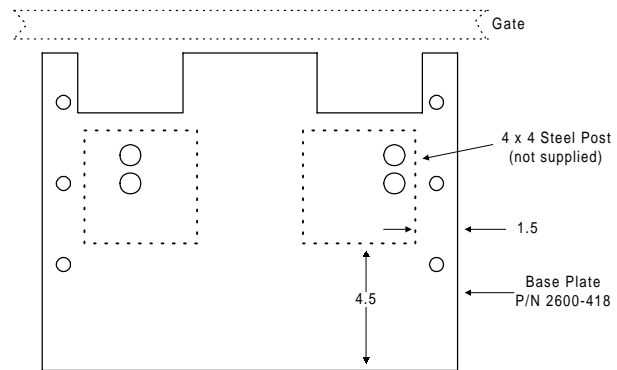

Figure 7
1. Post mounting the operator requires the use of an operator base plate (P/N 2600-418) and two (2) 4 X 4 steel post (not supplied) welded to the base plate as shown in figure 7. The length of the steel post and the depth of the pad are determined by soil conditions and local code requirements. We suggest that you contact the local building department to determine the required depth of the pad since soil conditions and code requirements vary from city to city.